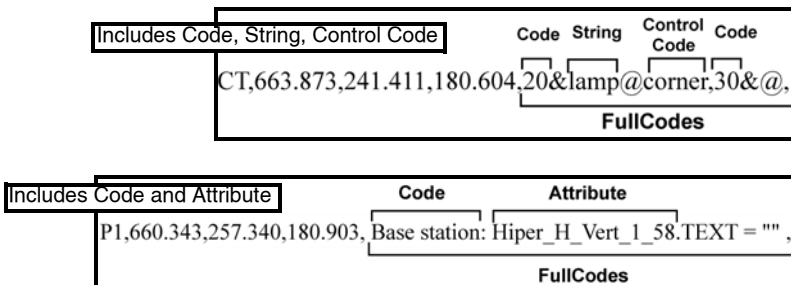

Figure 3-2. Examples of File Formats with FullCodes
- FullCodes include Code, String and Control Code – if these codes are included as shown in Figure 3-2 on page 3-4.
- FullCodes include Code and Attribute – if these codes are included as shown in Figure 3-2.